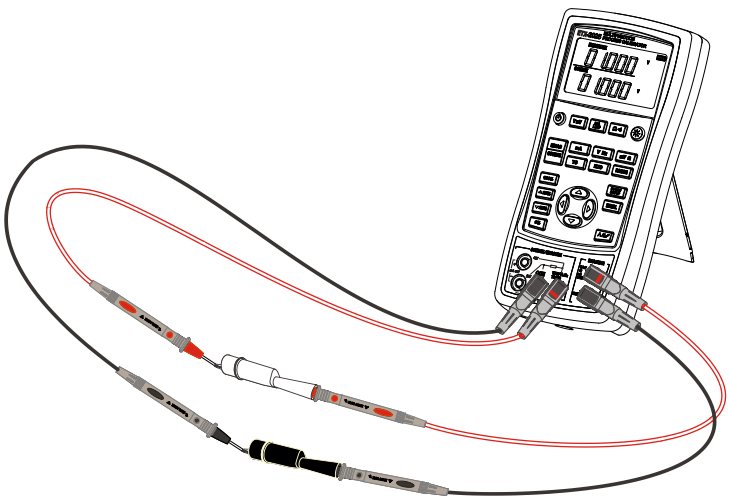

Figure 2.1-1
1. Connect the calibrator's the voltage output to its voltage input as shown in Figure 2.1-1.